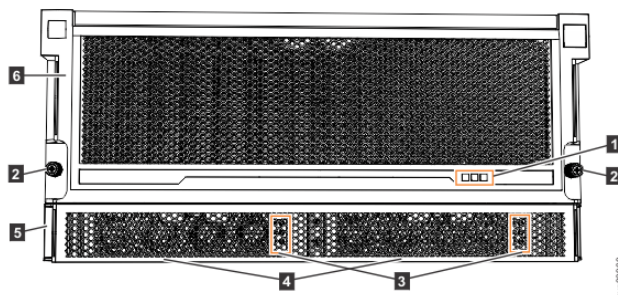

Figure 138. Features on the front of the 5U expansion enclosure
Important: Before you connect the power cables to the rear of the enclosure, always check that the expansion enclosure is secured in the rack. If needed, tighten the thumbscrews on the front of the enclosure (2 in Figure 138 on page 118) to ensure that the enclosure drawer does not roll open.
The 5U expansion enclosure has two power supply units (PSUs) that are accessible from the front of the enclosure (4 in Figure 138 on page 118). As the figure also shows, the PSUs are covered by the 1U fascia (5).